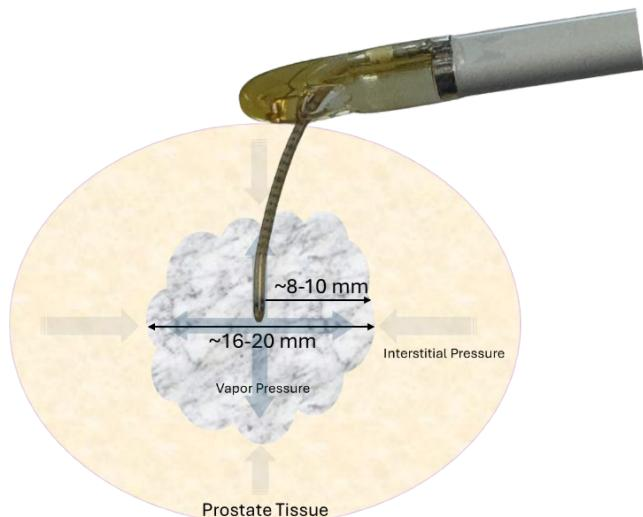
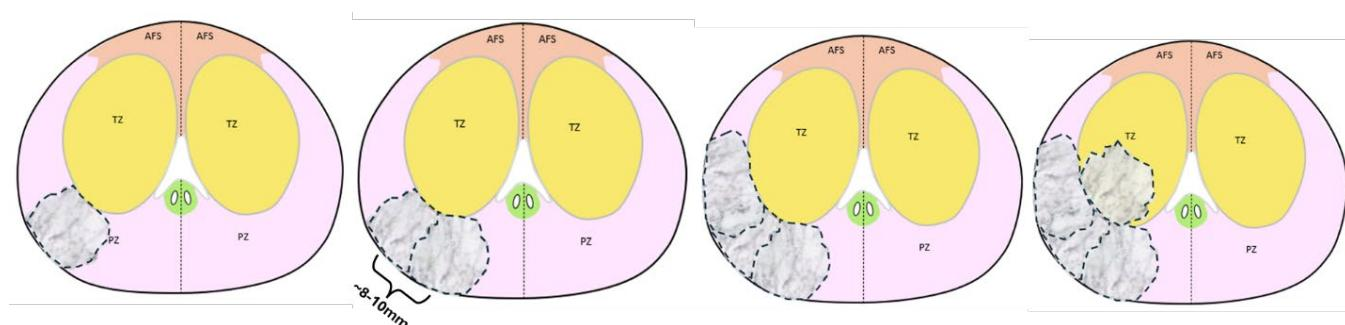
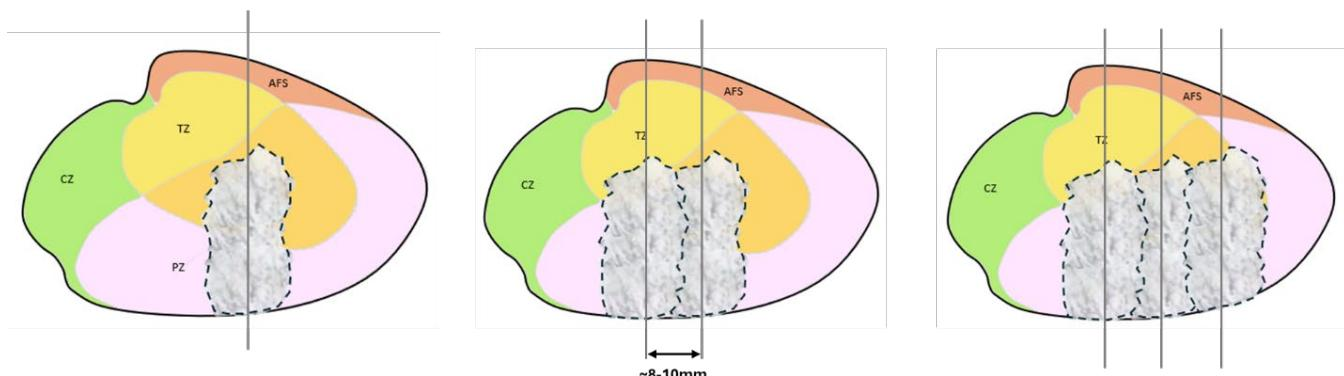

Figure 12-25: Approximate Size of a Single Vapor Treatment in Unencumbered Space
Figure 12-26: Overlapping Treatments in the Axial (Transverse) Plane
Figure 12-27: Overlapping Groups of Treatments in the Sagittal Plane
■ NOTE: A single vapor treatment in unencumbered space will cover a radius of 8-10 mm (0.3-0.4 in) (**Figure 12-25**). Therefore, adjacent treatments should be placed approximately 8-10 mm (0.3-0.4 in) apart to allow for overlap of the ablation zones and full coverage of the targeted tissue (**Figure 12-26** and **Figure 12-27**).